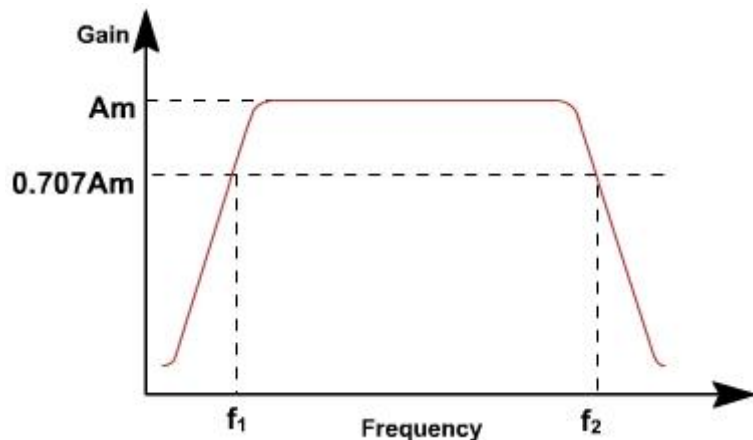

Fig. 7
The gain is constant over a frequency range. The frequencies at which the gain reduces to 70.7% of the maximum gain are known as cut off frequencies, upper cut off and lower cut off frequency. **fig. 7**, shows these two frequencies. The difference of these two frequencies is called Band width (BW) of an amplifier.